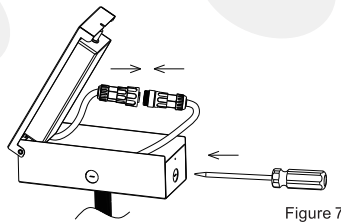

Figure 7
7. Connect the DC connector of led fixture with driver's DC connector. Remove the holes of the driver box if necessary. (Figure 7)